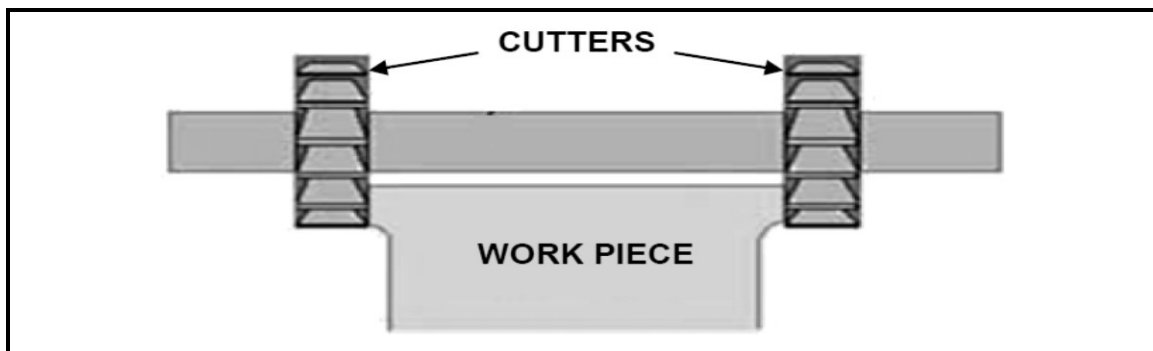

FIGURE 4.7
4.7 Identify the type of milling process shown in FIGURE 4.7 below.